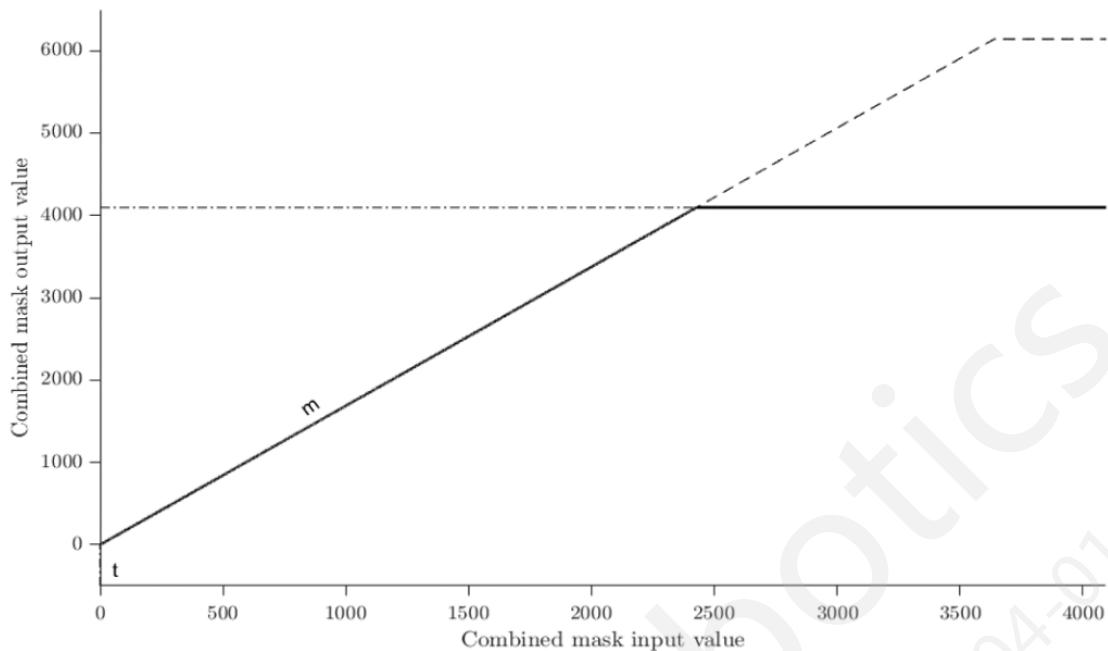

Figure 3.16-13 Final mask parameters and curve.
These registers define the linear threshold function, depicted in Figure 3.16-13. The input to this function is a combination of all the previously described masks, so its purpose is to provide some final control over the fringing detection.
- Referring to Figure 3.16-13, adjust Hsl\_thresh to make fringed areas as light as possible, with all other areas as dark as possible. Figure 3.16-14 shows a tuned final mask.